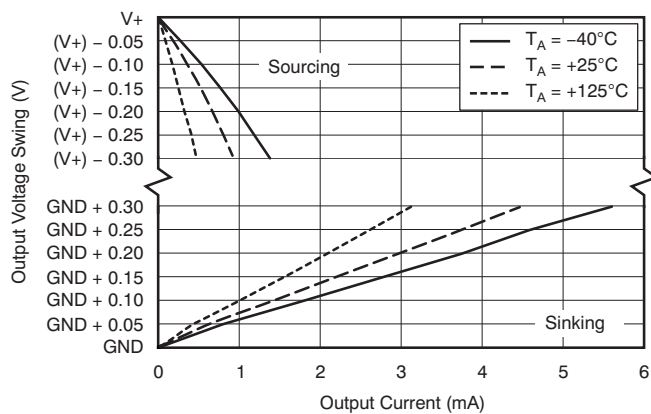

Figure 9.
(1) RTI: Referred-to-input.
(2) CMRR and PSRR are the same because V_{CM} is the supply voltage.
(3) See Typical Characteristics graph, *Output Swing to Rail* (Figure 9).